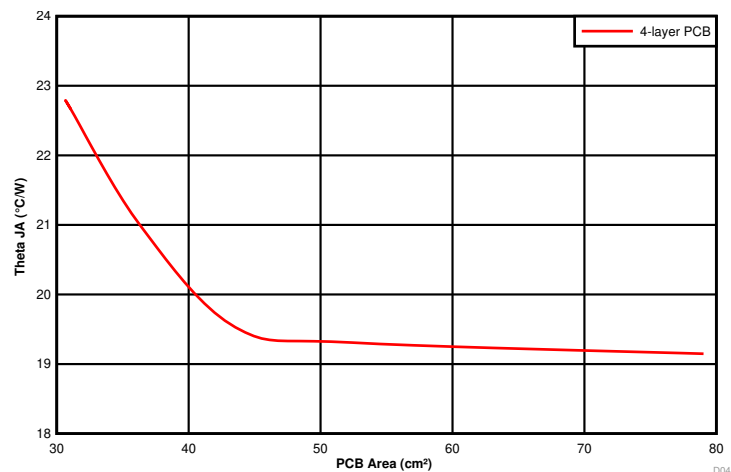

Figure 47.  $R_{\theta JA}$  versus PCB Area (per Layer)
The amount of PCB copper affects the thermal performance of the device. Figure 47 shows the effects of copper area on the junction-to-ambient thermal resistance ( $R_{\theta JA}$ ) of the TPSM53604. The junction-to-ambient thermal resistance is plotted for a 4-layer PCB with PCB area from 30 cm2 to 80 cm2.
3. Reference Figure 47 to determine the minimum required PCB area for the application conditions.